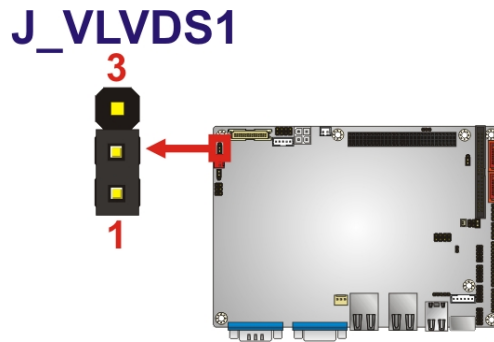

Figure 5-13: LVDS Voltage Selection Jumper Pinout Locations
- Jumper Location:** See **Figure 5-13**
The LVDS Voltage Selection jumper location is shown in **Figure 5-13**.
The **VIO Voltage Select** jumper location is shown in **Figure 5-13**.